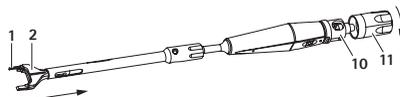

Fig. 13 Assembling insertion instruments
- ▶ Insert spacer **15** from the front through clamp **16** and, with unlocking button **22** pressed down, push in the clamp as far as it will go, see Fig. 13.